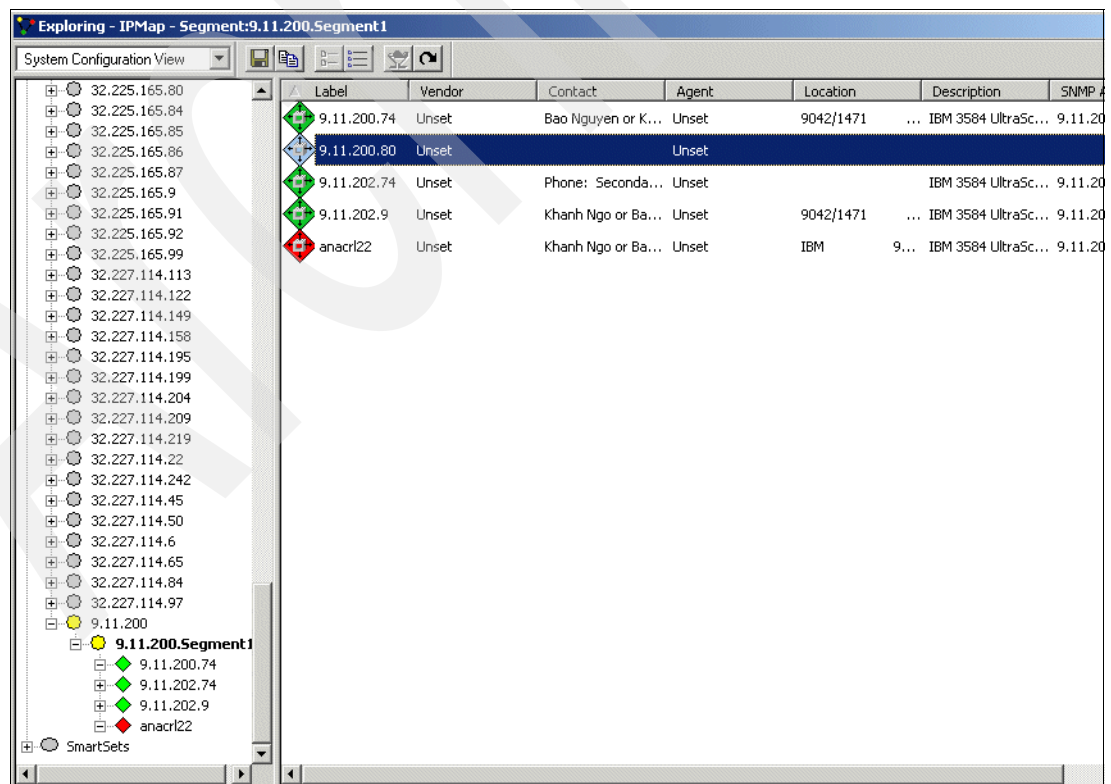

Figure A-19 NetView - Browse network segment
3. On the NetView console, you can browse the network segment that your library belongs to. The color of the icon indicates the status of the library. See Figure A-19 for an illustration of several libraries with different statuses.